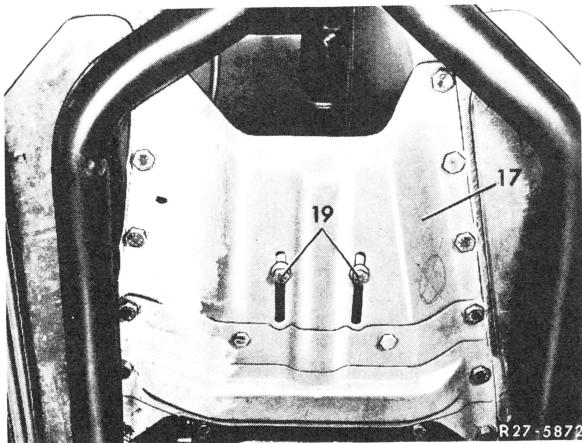

Fig. 1
- 2 Slightly raise engine-transmission unit with top for pit lift, unscrew both fastening bolts (19) for rear engine mounting, loosen 12 bolts of tunnel closing plate (17) and remove (Fig. 1).
- 29 Screw-on rear half of tunnel closing plate (17) (Fig. 1).
- 30 Screw-in both fastening bolts (19) for rubber mount on end plate and tighten (Fig. 1). Lower pit lift.